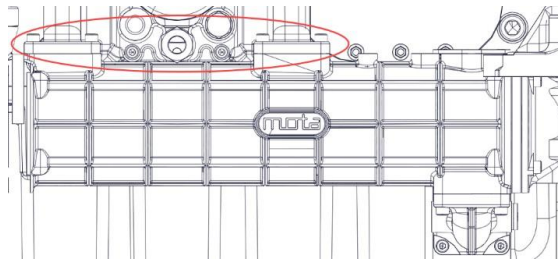

Figure 154-6.
3. Loosen top oil cooler bolts and adjust bolts to hand-tight position until no gap remains between surfaces (Figure 154-6).